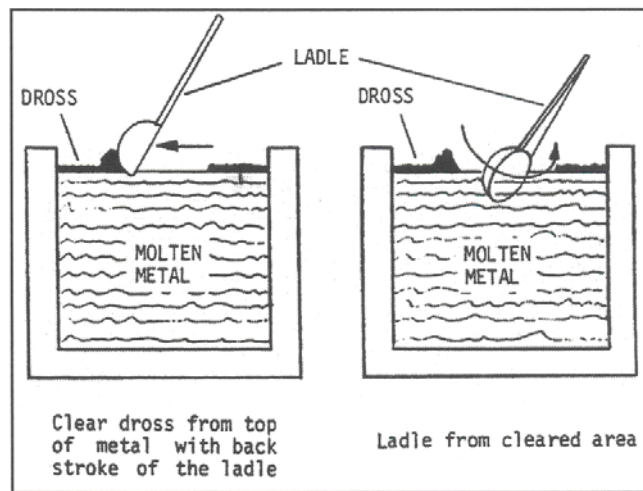

Fig. 8-1. Care must be taken to insure that dross is not ladled into the cold chamber
3. When ladling, use backward motion to skim metal dross with the ladle lip, followed by a forward motion to dip metal from the skimmed area (see Fig 8-1).